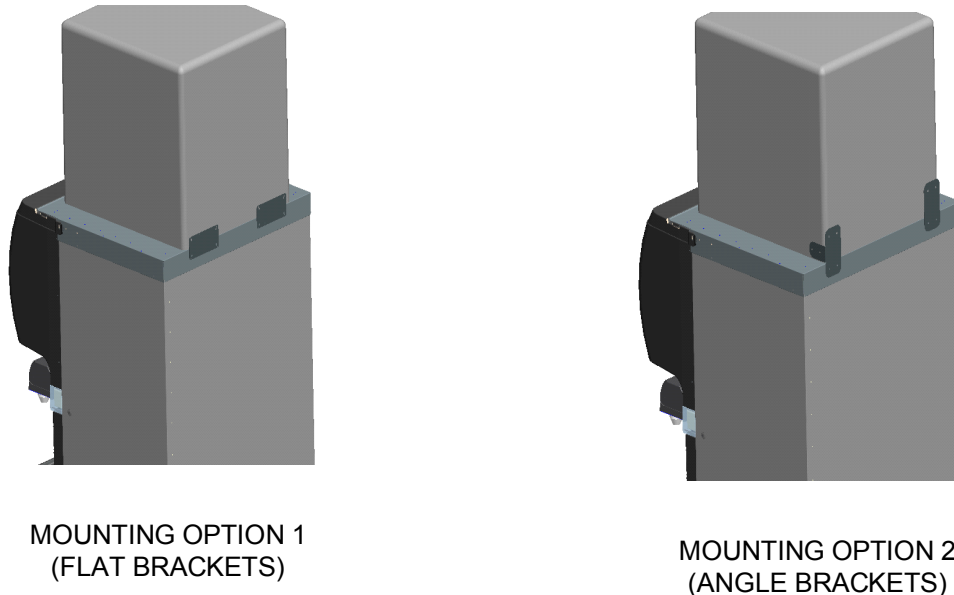

Figure 4.
Two options are supplied with this kit for securing the icemaker to the kit. (See Figure 4)
9. The next step is to secure the icemaker to the kit. Depending on the mounting method chosen, use the appropriate brackets (supplied) as templates to drill four 9/64" (.140" Dia.) holes into the back side of the adapter kit. Drill four holes of the same diameter into the icemaker (Figure 4). Ensure the location of the brackets will not damage the kit or the icemaker prior to drilling any holes. **USE EXTREME CAUTION NOT TO DRILL INTO ANY OTHER COMPONENTS.** Drill depths should not go further than the thickness of the material being drilled (just enough to go through). Secure the two brackets using the screws provided.